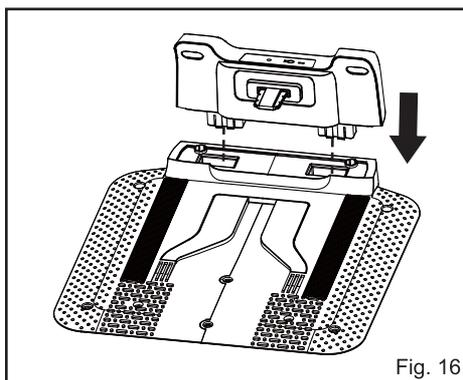

Fig. 16
- Fully insert the upper part of the base station onto the base. Ensure the upper part clicks firmly into place (Fig. 16).